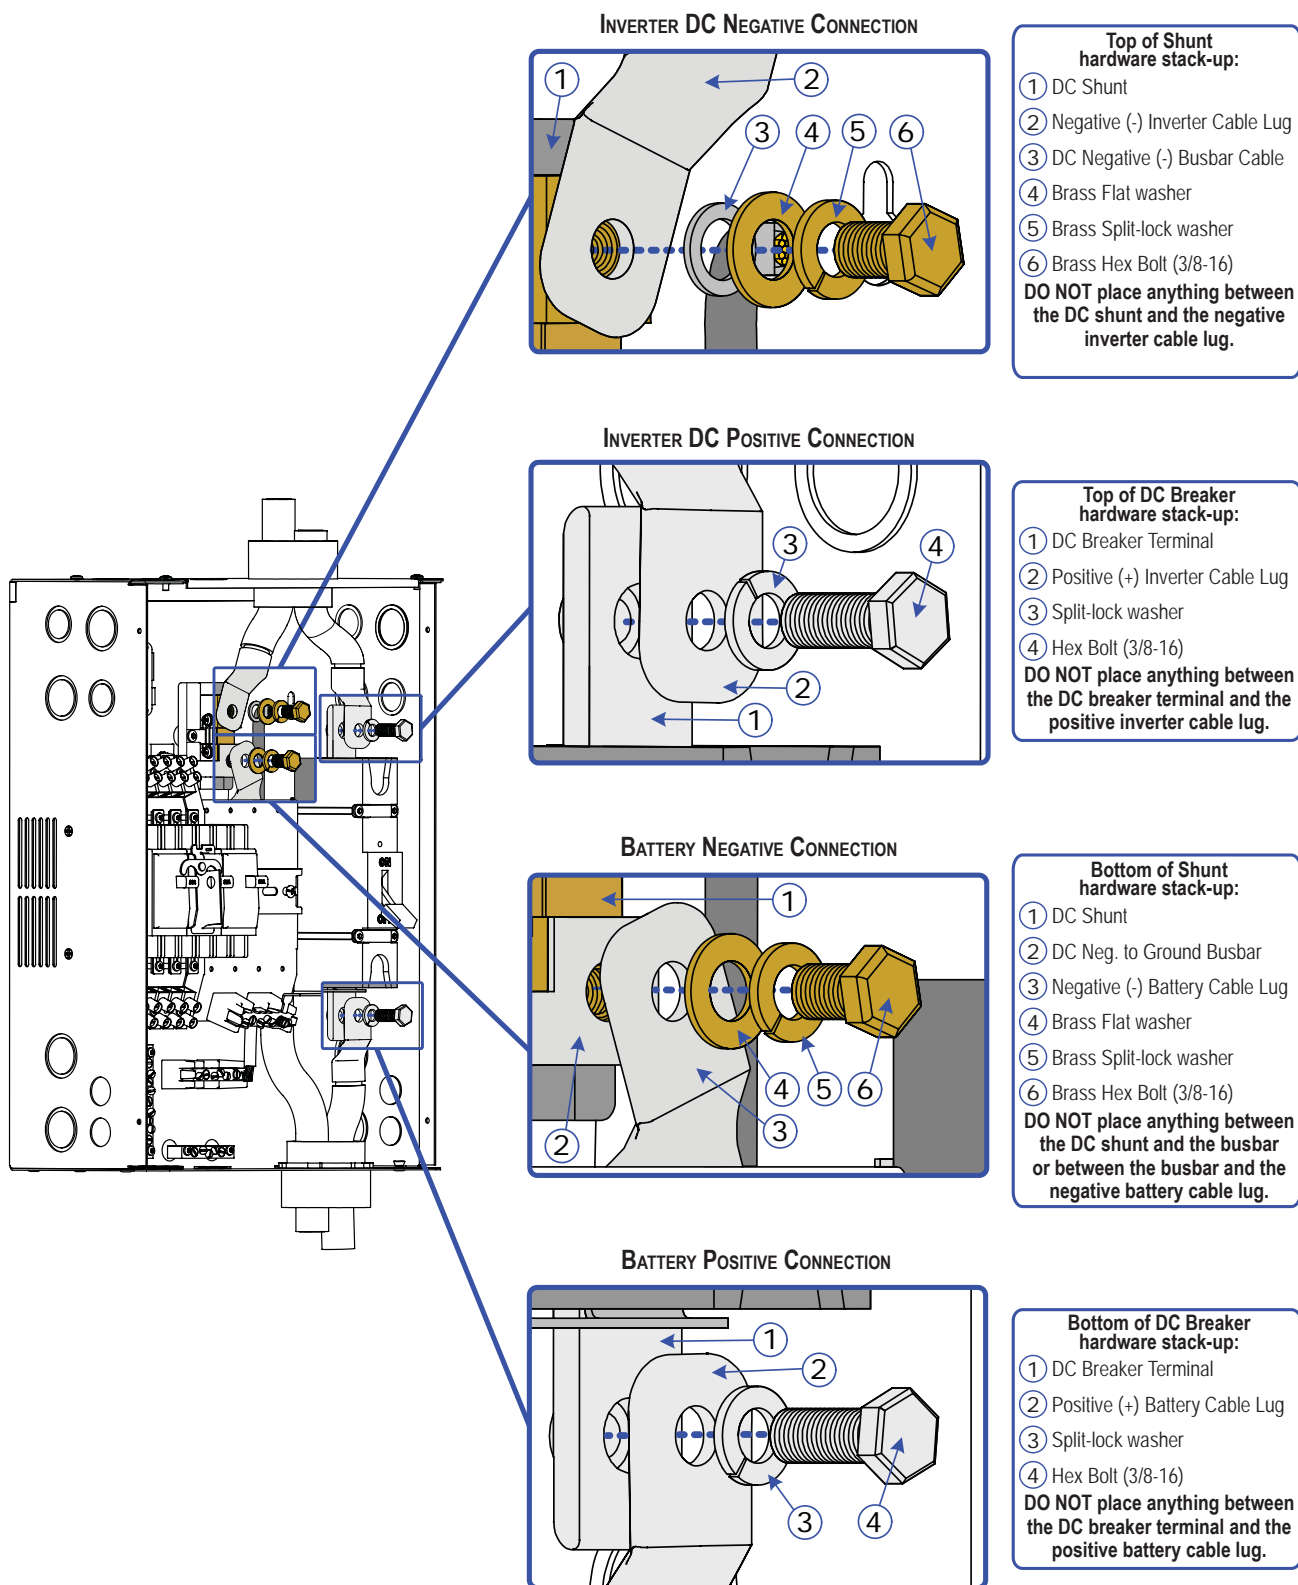

Figure 3-11, DC Connections - without Magnum Inverter Installed
The DC wiring for the MMP enclosure is further detailed in Figure 3-10 for systems using a Magnum Energy inverter, and in Figure 3-11 for systems not using a Magnum inverter. These detailed diagrams should be reviewed to assist in wiring the DC circuits, however, they are not intended to override or restrict any national or local electrical codes. These drawings should not be the determining factor as to whether the installation is compliant, that is the responsibility of the electrician and the onsite inspector.
3. Ensure the DC wire connections (on the batteries, inverter, DC circuit breaker and DC shunt) are flush on the surface of the DC terminals and the hardware used to hold these connections are stacked correctly (see Figures 3-11 and 3-12); and then securely tighten these DC connections. Only after the entire installation is complete and all connections are verified, should the DC circuit breaker be closed to provide power to the inverter.